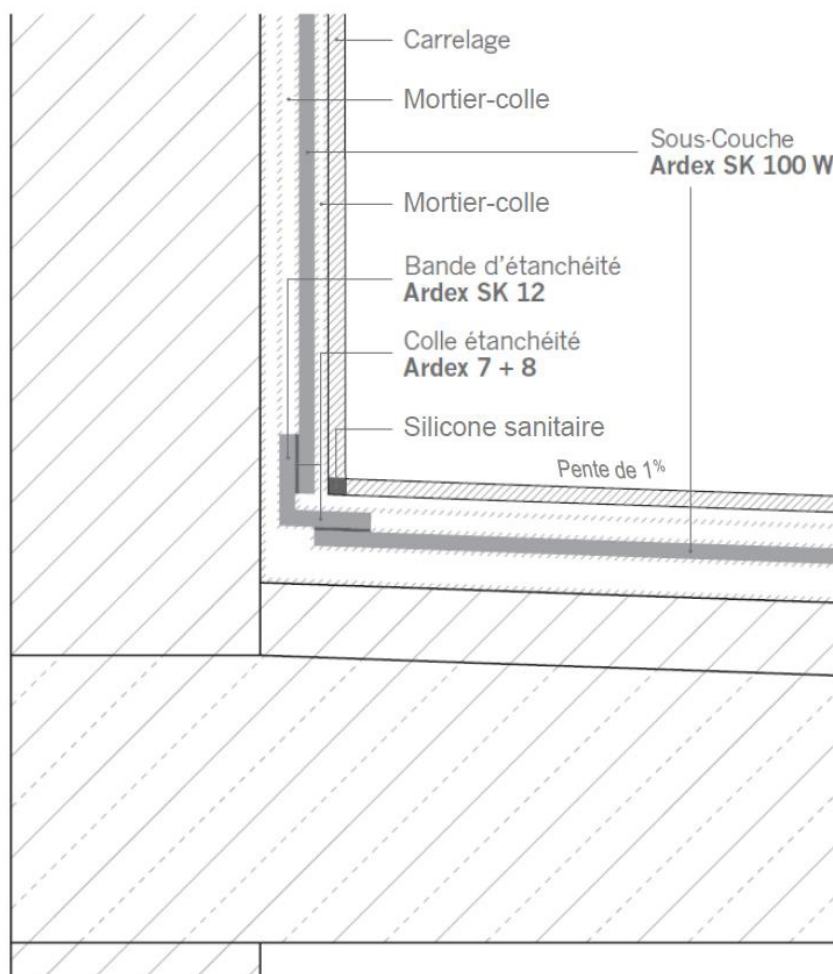

Figure 2 – Raccordement sol-mur
2.4.2.3.1. Raccordement sol-mur (figure 2)